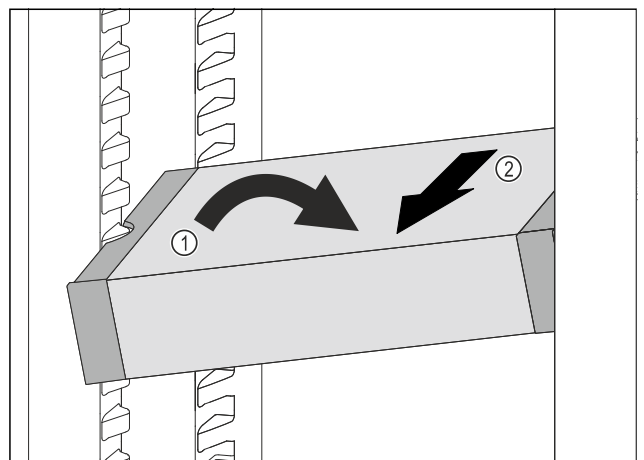

Fig. 138
- Set VarioSafe in refrigerator compartment at an angle. Fig. 138 (1)
- Take VarioSafe out to the front. Fig. 138 (2)